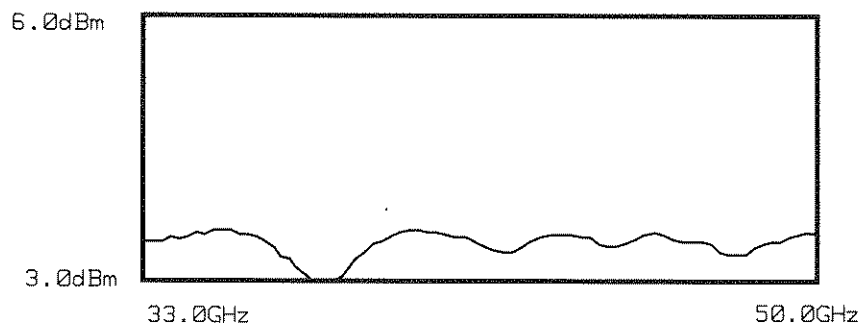

Figure 2-6. Power Flatness Response (33.0 to 50.0 GHz)
10. Slowly tune the frequency from 33.0 GHz to 50.0 GHz while watching the power level readings on the power meter. The power level displayed should not exceed +6.0 dBm. See Figure 2-6.